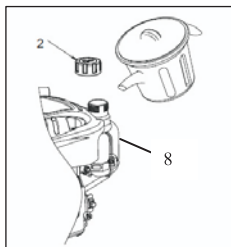

Fig 5
1. Remove the fuel cap (2).
2. Add fuel to the bottom of the fuel level limit in the neck of the fuel tank (8). (See Fig. 5)
5. Fuel tank (8) capacity: 1.2L (0.317US gal, 0.263UK gal)